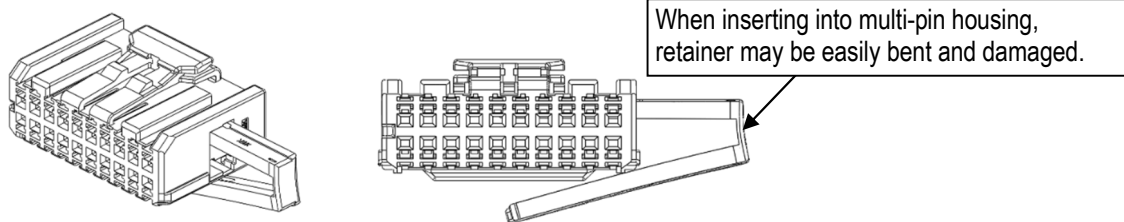

Fig34. Insufficient retainer installation
- ④ Do not forcefully insert in any other position than those shown in Fig.34.
- ① Retainer must be inserted in the orientation instructed. Inserting retainer in any other orientation may result in damage or deformation. (see Fig.34,35)
- ② If there is any damage or deformation, do not use the damaged item. Replace the item with a new one.